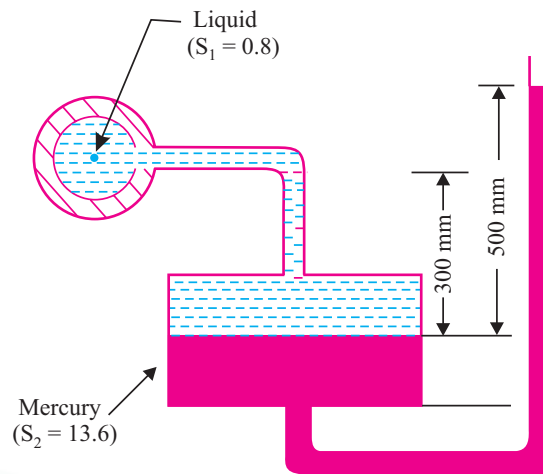

Fig. 2.20
**Example. 2.17.** Fig. 2.20 shows a single column manometer connected to a pipe containing liquid of specific gravity 0.8. The ratio of area of the reservoir to that of the limb is 100. Find the pressure in the pipe.